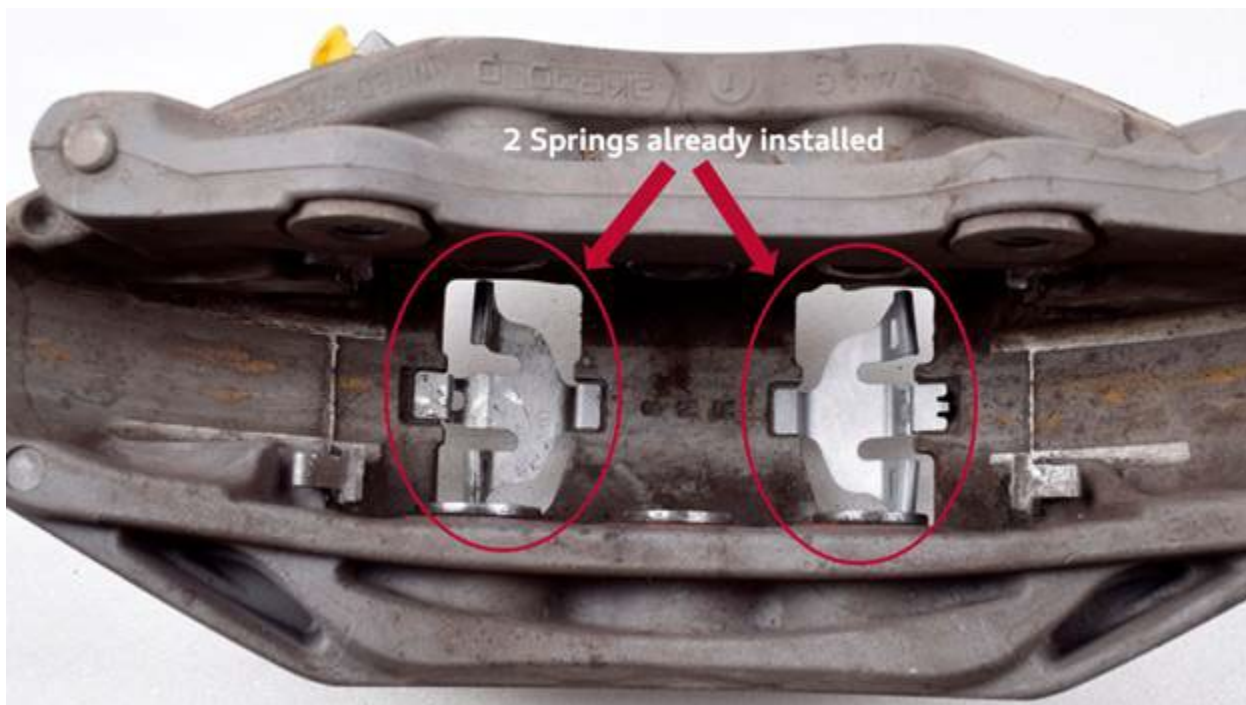

Figure 3. Spring configuration, after installation.
- B. Install one new lower spring in each caliper. The final configuration must have two springs per caliper (Figure 3). See available spring designs (Figure 4).